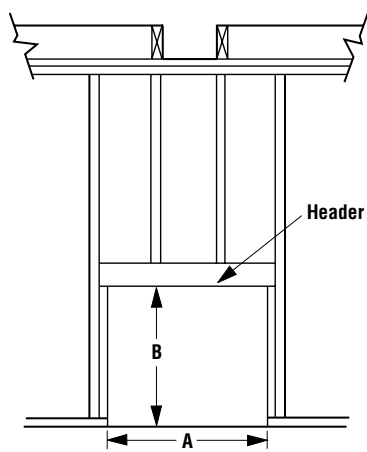

Figure 6
Construct firebox framing following *Figures 6 through 8* and the chart on page 8 for your specific installation requirements. Refer to *Figures 4 and 5* on pages 6 and 7 for firebox dimensions.
Step 2. Refer to firebox and framing specifications on pages 6, 7 and 8 *Figures 6 through 10* for framing dimensions and details. Framing header may be positioned directly on the firebox top spacers.